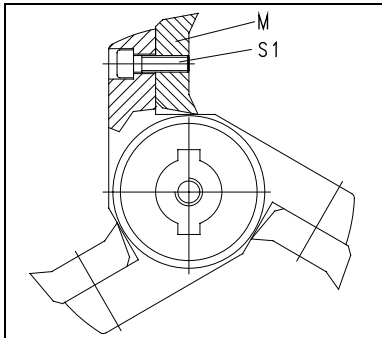

Fig.10
- Replace knife **M**. **Fig.10**